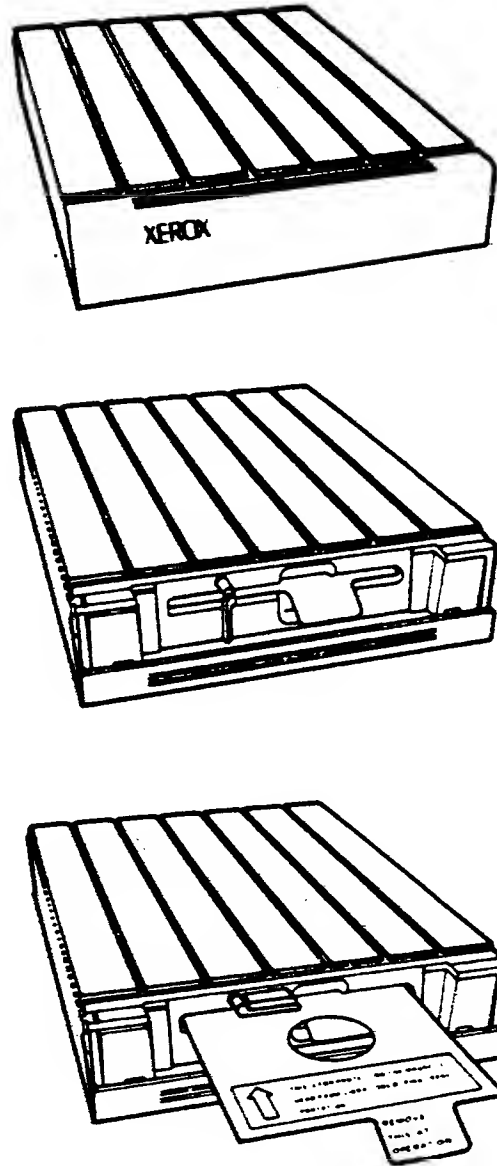

Figure 2-23. Discarding the Shipping Disk
8. Flip the front cover of the floppy disk drive down, and slide it back, as shown in Figure 2-23.